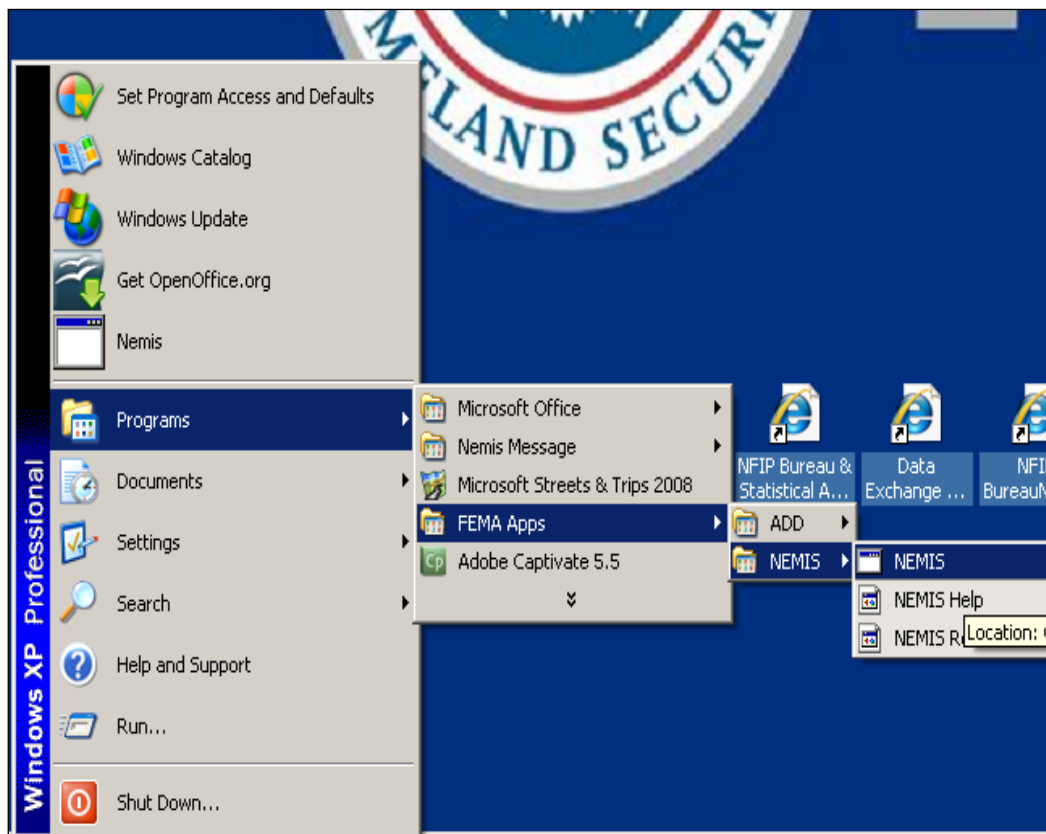

Figure 1-5: NEMIS via Installed Programs
2. Select **Programs > FEMA Apps > NEMIS > NEMIS** (Figure 1-5)